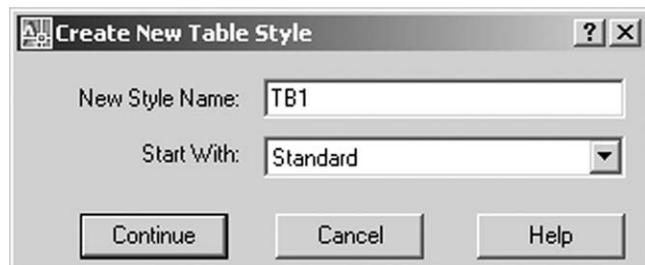

Figure 24.2 The Create New Table Style dialogue box.
b) Start With: Standard – Figure 24.2